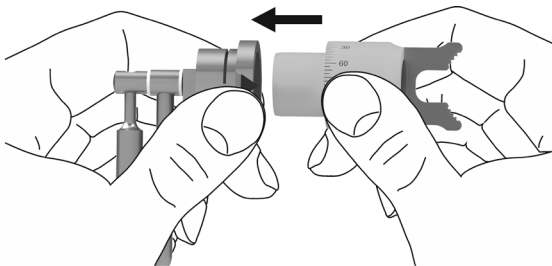

Abb. 2
- Hold the pendulum instrument and the TOMARK cornea marker as shown in fig. 2
- Attach the TOMARK cornea marker to the pendulum instrument (fig. 2)
- Remove the TOMARK cornea marker from the pendulum instrument (fig. 2).